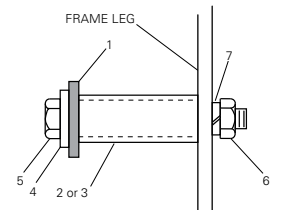
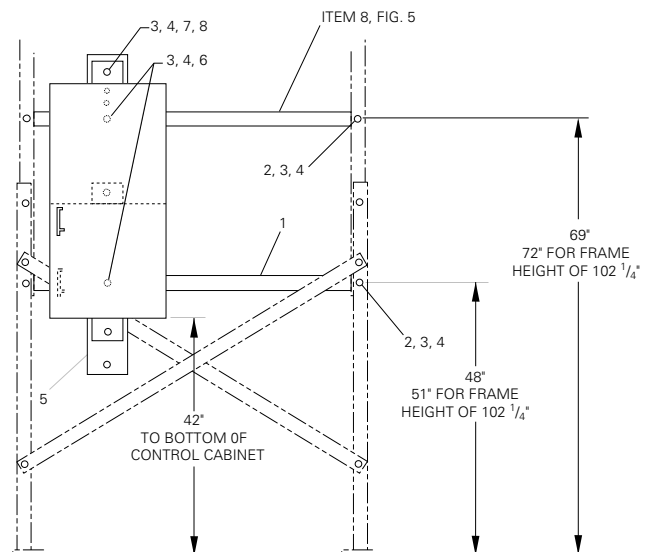

Figure 16. Hardware assembly for mounting the horizontal support straps (KA89WV10).
Figure 20. Control mounted on side of frame at 42-inch height (KA89WV11).
1. Attach the first horizontal support strap (Item 1) to the frame legs 46-1/2 inches from the concrete mounting pad using two spacers (Item 3), two washers (Item 4), two cap screws (Item 5), two lockwashers (Item 7), and two hex nuts (Item 6). Assemble the hardware as shown in Figure 16.
2. Attach the second horizontal support strap to the frame legs 27 inches above the first horizontal strap using two spacers (Item 2), two washers (Item 4), two cap screws (Item 5), two lockwashers (Item 7), and two hex nuts (Item 6). Assemble the hardware as shown in Figure 16.
1. Attach the first horizontal support strap to the frame legs 28-1/2 inches from the concrete mounting pad, as shown in Figure 20, using two spacers (Item 2), two washers (Item 4), two cap screws (Item 5), two lockwashers (Item 7), and two hex nuts (Item 6). Assemble the hardware as shown in Figure 16.
2. Attach the second horizontal support strap to the frame legs 27 inches above the first horizontal strap, as shown in Figure 16, using two spacers (Item 3), two washers (Item 4), two cap screws (Item 5), two lockwashers (Item 7), and two hex nuts (Item 6). Assemble the hardware as shown in Figure 16.
Refer to Figure 20 and Table 10. Mounting accessory KA89WV11 locates the recloser control at a 42-inch height (from the bottom of the cabinet to the mounting pad) with a basic frame height of 96-1/4 inches or higher.
8. Mount the vertical control strap to the upper and horizontal support angle as shown in Figure 20.
1. From the top of Item 5, locate the seventh hole and loosely install one cap screw (Item 2), one flat washer (Item 8), one lockwasher (Item 4), and one hex nut (Item 3) as shown in Figure 20.
1. From the top of Item 5, locate the first hole and loosely install one cap screw (Item 2), one flat washer (Item 8), one lockwasher (Item 4), and one hex nut (Item 3) as shown in Figure 20.